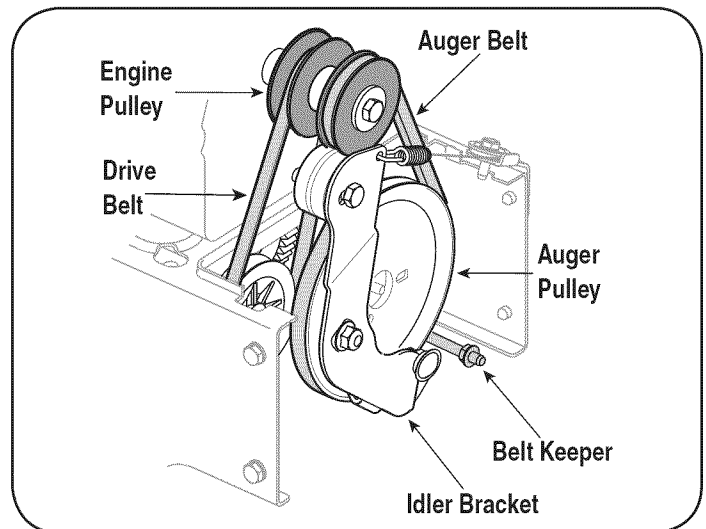

Figure 18
2. Slip the front auger belt off of the engine pulley, pushing it forward and rolling in off of the pulley. See Figure 18.
5. Place the new drive belt into the groove on the engine pulley. See Figure 18.